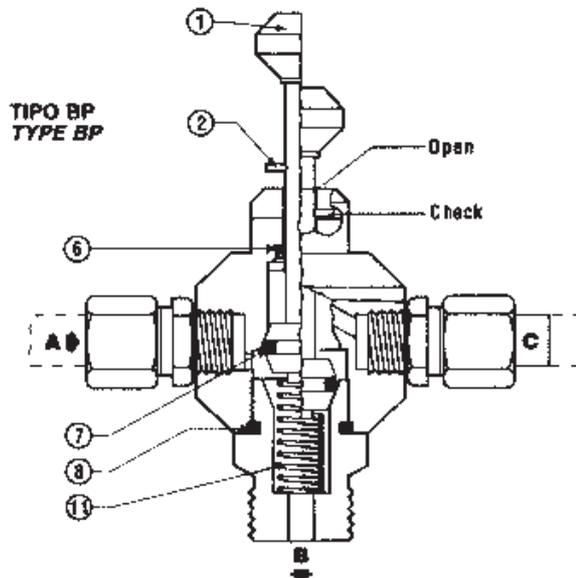

Fig. 7
3.1 VALVOLA DEVIATRICE A TRE VIE "PUSH" (FIG. 7)
3.1 "PUSH" THREE-WAYS SWITCH VALVE (FIG. 7)